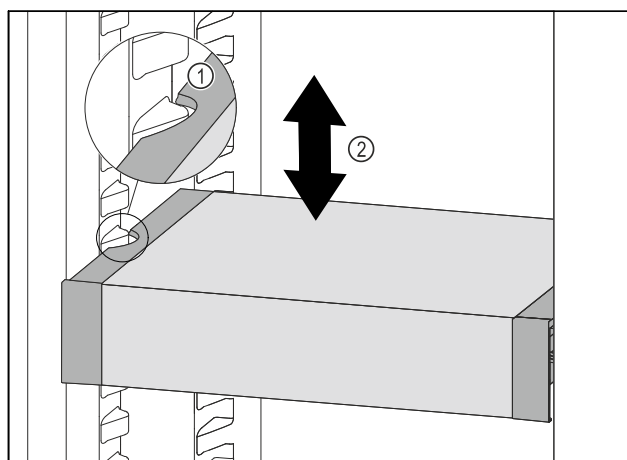

Fig. 105
- Pull VarioSafe forwards until the recesses in the side of the VarioSafe are at the level of the support rib in the refrigerator compartment. Fig. 105 (1)
- Move VarioSafe up or down in the refrigerator compartment until the desired height is reached. Fig. 105 (2)